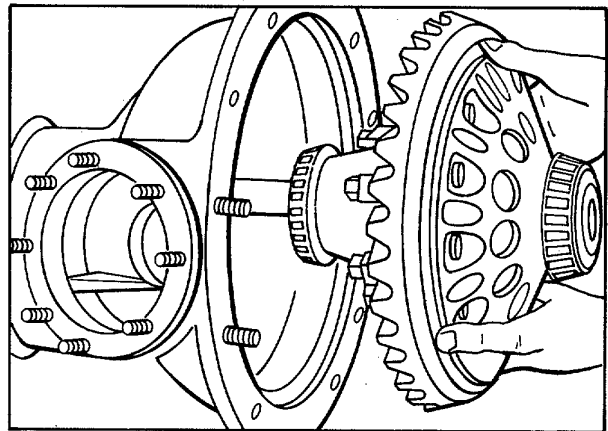

Figure 9.
4. Position differential and gear assembly over pipe with gear facing the case half and slide into position (refer to Fig. 9).